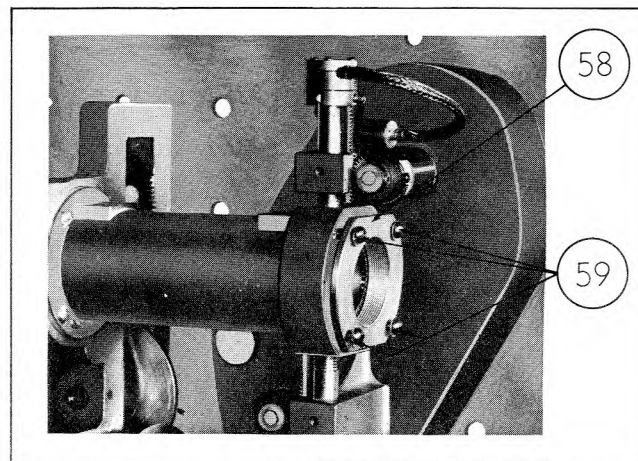

Figure 4-43. Assembly of Grid Contact Clamping Plate
Figure 4-43 shows the procedure for assembling the grid contact clamping plate (58). The four 8-32 x $1/2$ inch screws (59) should be tightened until the clamping plate seats against the end of the cavity block.